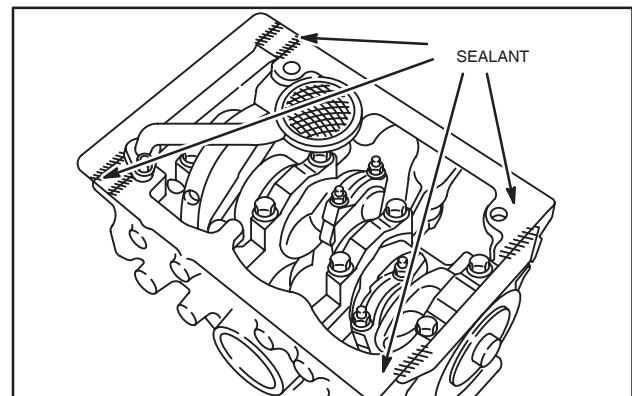

Fig. 22 – Installing Oil Pan
- Apply a small bead of Permatex® No. 2 or similar sealant to crankcase areas shown, Fig. 22.